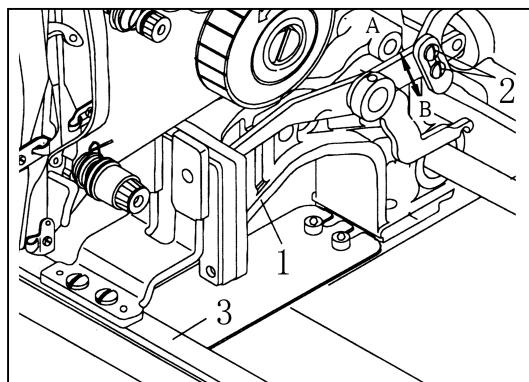

Fig. 18
Loose the left and right two-sided screws (2). Move the rod up in the direction A to decrease the height of the feed plate (3) or move the rod down in the direction B to increase the height of the feed plate (3). After adjusting the height of the feed plate (3), fix the screw. (see fig. 18)